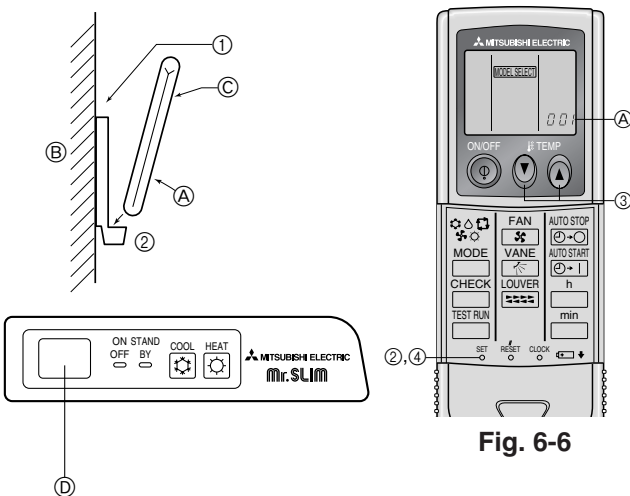
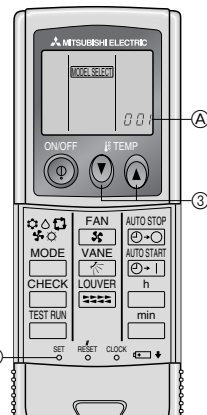

Fig. 6-5
Fig. 6-6
2) Installation method (Fig. 6-5)
- ① Attach the remote controller holder to the desired location using two tapping screws.
- ② Place the lower end of the controller into the holder.
3) Setting (Fig. 6-6)
- ① Insert batteries.
- ② Press the SET button with something sharp at the end.